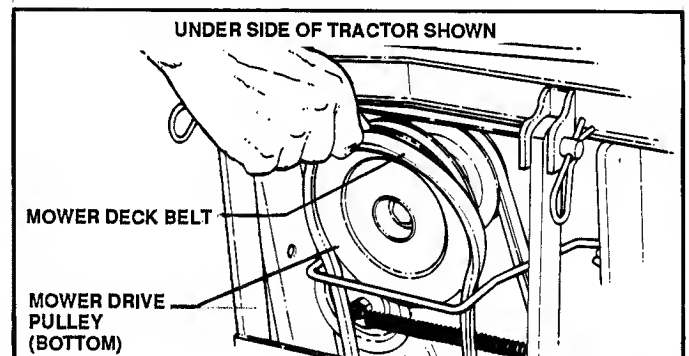

FIGURE 33
5. Remove MOWER DECK BELT from bottom pulley of engine. See Figure 33.